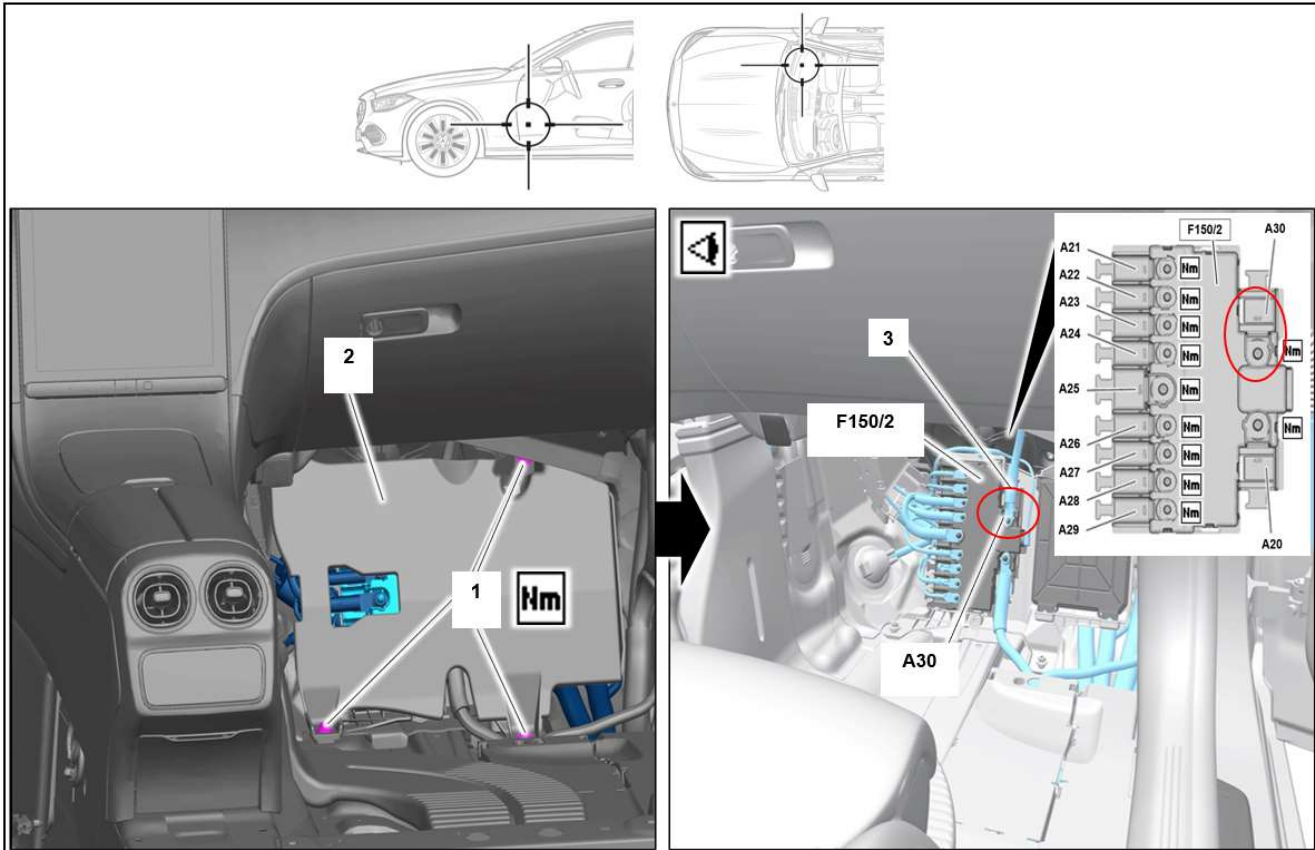

Figure 1
3. Remove passenger side footwell support (**Figure 1, 2**).
ⓘ For this purpose, remove nuts (**Figure 1, 1**).
ⓘ **Installation:** Tighten nuts (**Figure 1, 1**) with the specified tightening torque of **6 Nm**.